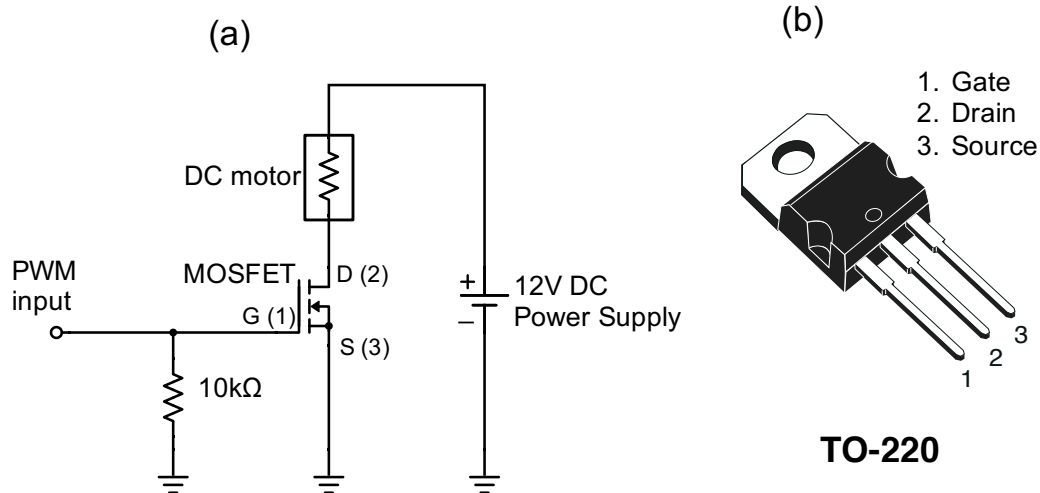

Figure 1 – The MOSFET PWM circuit from last week can be used to control the speed of a DC electric motor.
1. Construct the MOSFET PWM circuit shown in Fig. 1. This is the same circuit from last week, but you will replace the resistive heater with the DC motor. You should use the external 12V DC power supply—not the one on the breadboard. Connect the negative terminal of the power supply to ground.
A brushless DC motor works similar to a stepper motor. It contains a series of electromagnetic coils that fire in succession causing permanent magnets connected to the shaft to spin. Unlike the stepper motor, the coils are driven by *3-phase power*. Each set of coil is driven by a separate AC sine wave, which are 120° out of phase with one another. Thus, the name “brushless DC motor” is a bit of a misnomer, because the motor actually runs on 3-phase AC sine waves. Shown below in Fig. 1, an *electronic speed controller (ESC)* is necessary to convert the 12V DC power to 3-phase AC power.